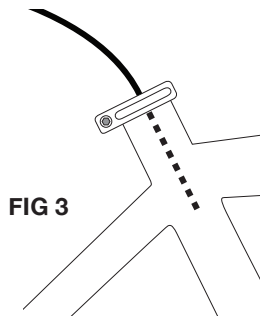

FIG 3
5. Once the length is determined, put a piece of tape on the housing to mark the spot where it sticks out of the seat tube. (FIG 3)